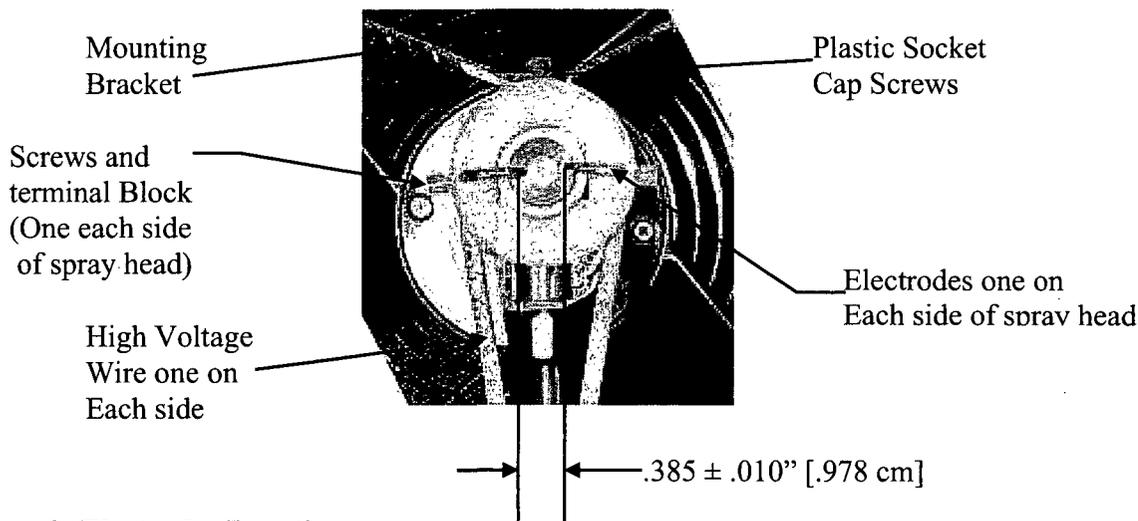

Figure 9: Electrodes Location
1. Carefully remove spray head assembly by unscrewing 2 plastic socket cap screws from mounting bracket, see figure 9.
2. Remove 2 white high voltage wires, air and liquid tubing from spray head assembly, see Fig. 9 above.